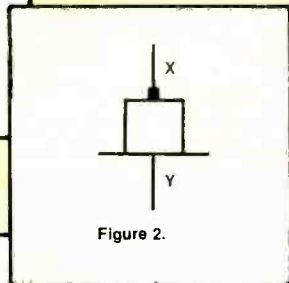

Figure 2.
- Which end of the diode in Figure 2 is the cathode?